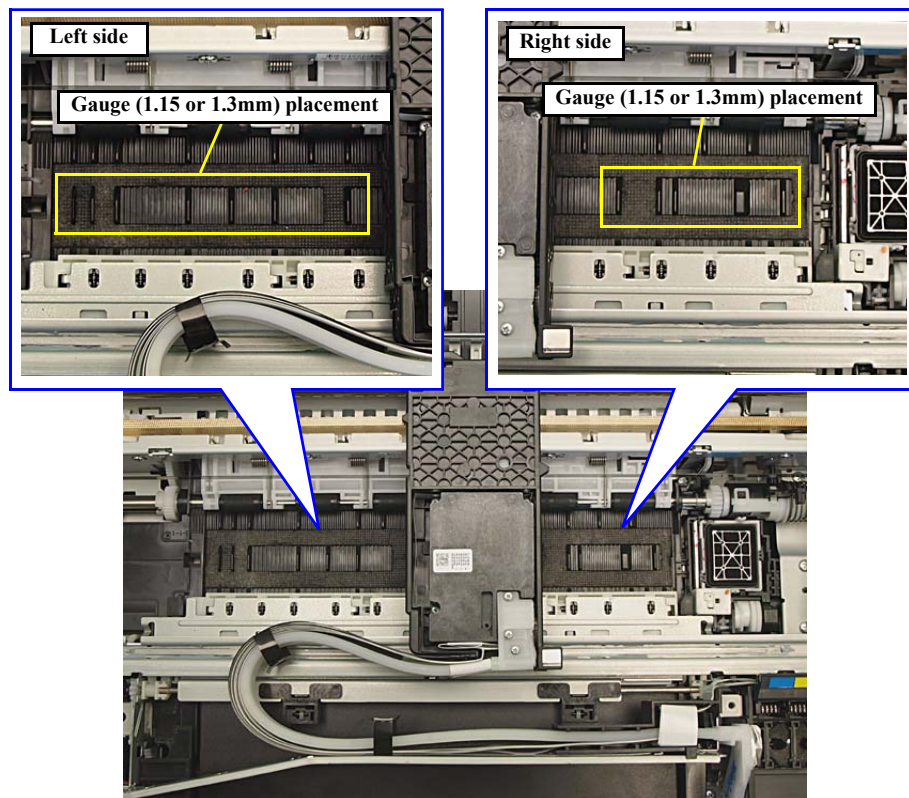

Figure 5-41. Setting the thickness gauge
1. Move the carriage to the center of the platen, and place one of the 1.1 mm thickness gauges aligning the left edge with the third rib from the left end of the Front Paper Guide to the fifth rib. Then place the other 1.1 mm thickness gauge aligning the right edge with the second rib from the right end of the Front Paper Guide to the fifth rib. (*Fig. 5-41*)